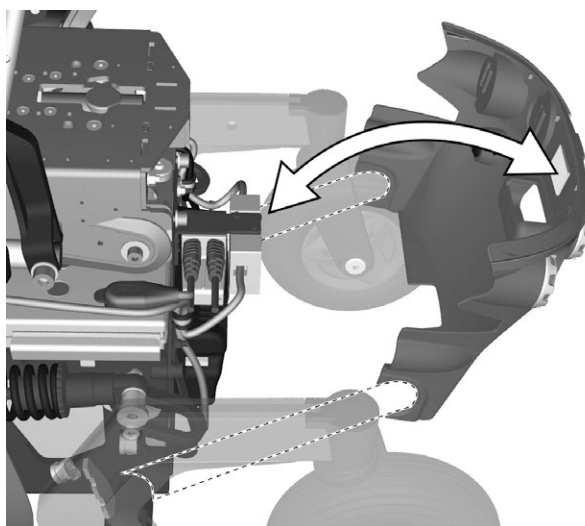

Figure 29. The chassis rear cover.
5. Pull the rear chassis covers off the chassis. See fig. 29.